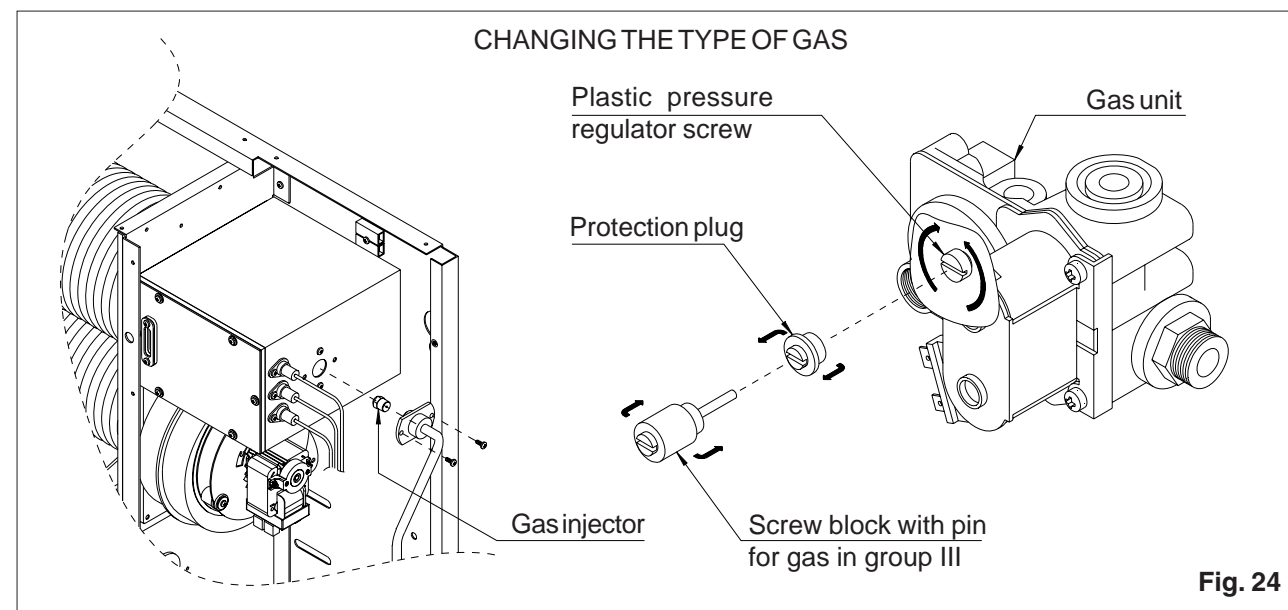

Fig. 24
supply pipe connector to the combustion chamber (fig. 24). Gently remove the connector until the injector is free and unscrew it using a 10-mm hex wrench. Insert a new injector and retighten it to ensure a proper seal. Put the connector back in place and attach it to the combustion chamber with the two screws.
- e) on the gas unit, remove the screw block with pin located on the pressure regulator to reset regulation operation (fig. 24)
- Remove the 2 screws which attach the gas supply pipe connector to the combustion chamber (fig. 24). Gently remove the connector until the injector is free and unscrew it using a 10-mm hex wrench. Insert a new injector and retighten it to ensure a proper seal. Put the connector back in place and attach it to the combustion chamber with the two screws.
- Unscrew the pressure regulator protection plug located on the gas unit. Insert the screw block with pin in the place of the protection plug and tighten it so as to put the regulator out of service (fig. 24). **Keep the pressure regulator protection plug for future use.**